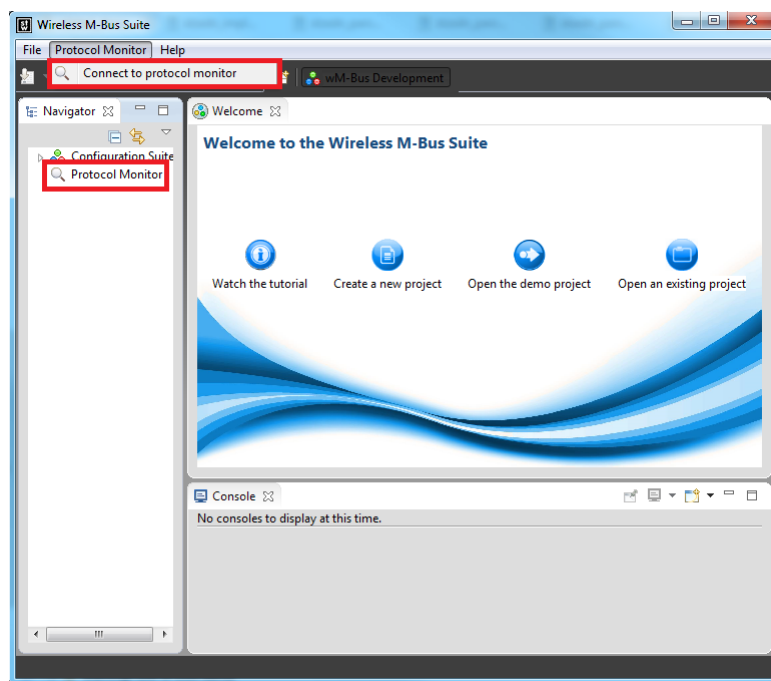

Figure 50: Open the 'Wireless M-Bus Protocol Monitor' wizard
- (1) Open Wireless M-Bus Suite.
- (2) Select 'Connect to protocol monitor' or 'Protocol Monitor' (refere to figure 50).